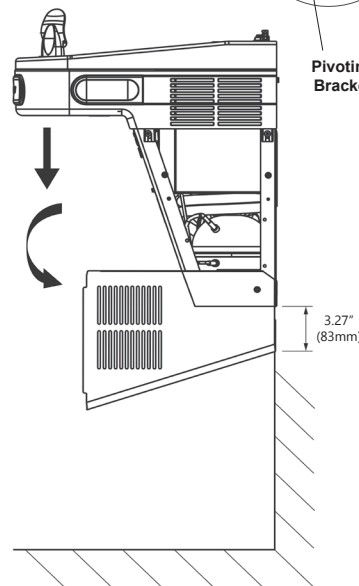

Fig. 6
1. Ensure that there are no plumbing or external objects below the wrapper in the specified dimension. The specified (3.27") minimum distance is required for the wrapper to swing out (see Fig. 6).